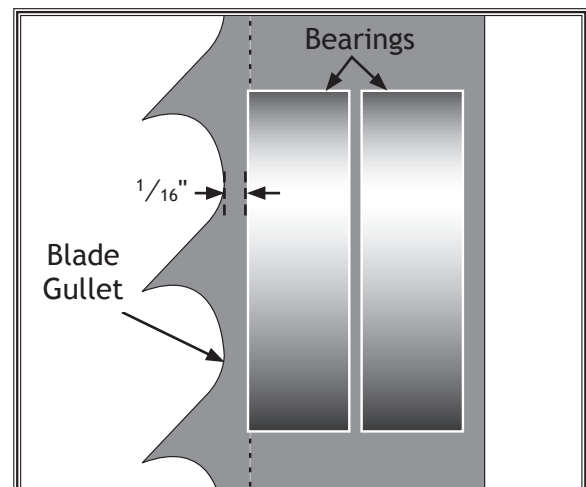

Figure 29. Lateral adjustment of blade guides.
4. Loosen the lateral adjustment rod bolt, loosen the support bearing adjustment shaft bolt, and adjust the blade guides until the edges of the bearings are $\frac{1}{16}$ " behind the blade gullets, as illustrated in **Figure 29**.